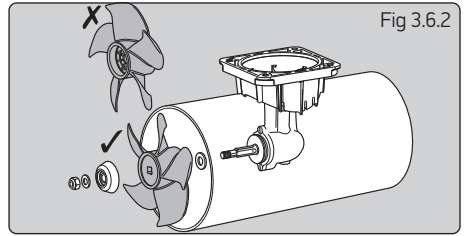

Fig 3.6.2
- ▶ Fig 3.6.2 - Tighten hub/saddle bolts to 9 Nm (6.6 lb.ft) for 140 /125 or 21 Nm (15.5 lbs.ft) for 185.